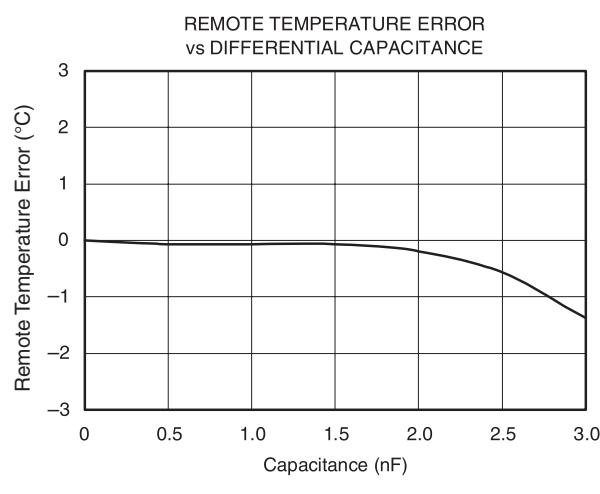

Figure 6.
- C. C_{DIFF} (optional) should be $<1000\text{ pF}$ in most applications. Selection of C_{DIFF} depends on specific application; see Filtering section and Figure 6, Remote Temperature Error vs Differential Capacitance.
The TMP411-Q1 tolerates differential input capacitance of up to 1000 pF with minimal change in temperature error. The effect of capacitance on sensed remote temperature error is illustrated in typical characteristic Remote Temperature Error vs Differential Capacitance (Figure 6).